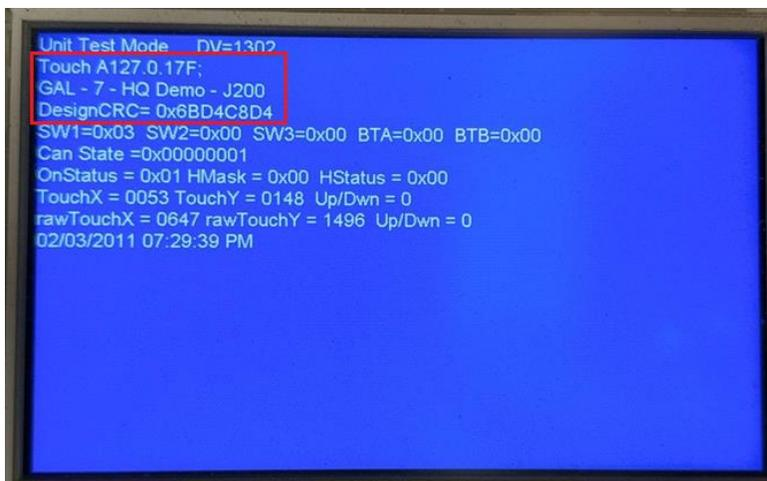
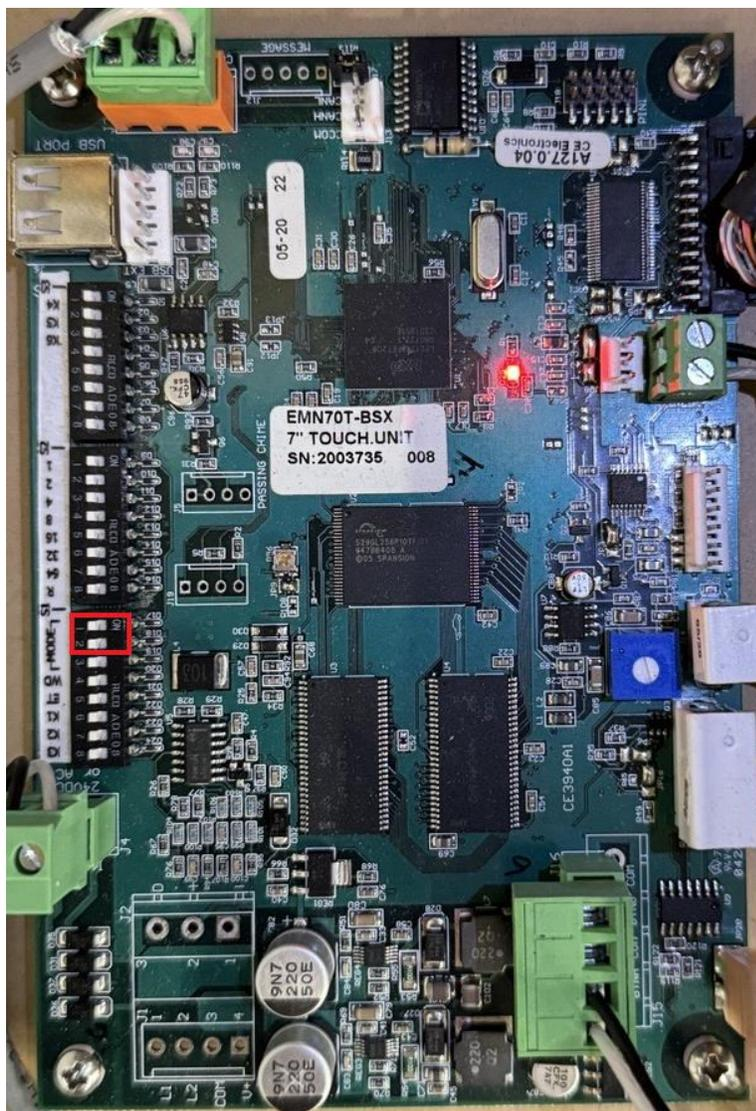

Figure 4-2: Kiosk Factory Test Mode
Figure 4-3: DIP Switch Settings for Kiosk
- Verify that the floor and location of the kiosk is configured correctly on the DIP switches on the back of the kiosk (see Figure 4-3 below).
- Set the dip switches DS1 and DS2 shown in the red box in Figure 4-3 below as the Factory Test Mode switches. Figure 4-2 displays the Factory Test Mode screen and allows the user to see the version number of the current firmware and graphic design files.